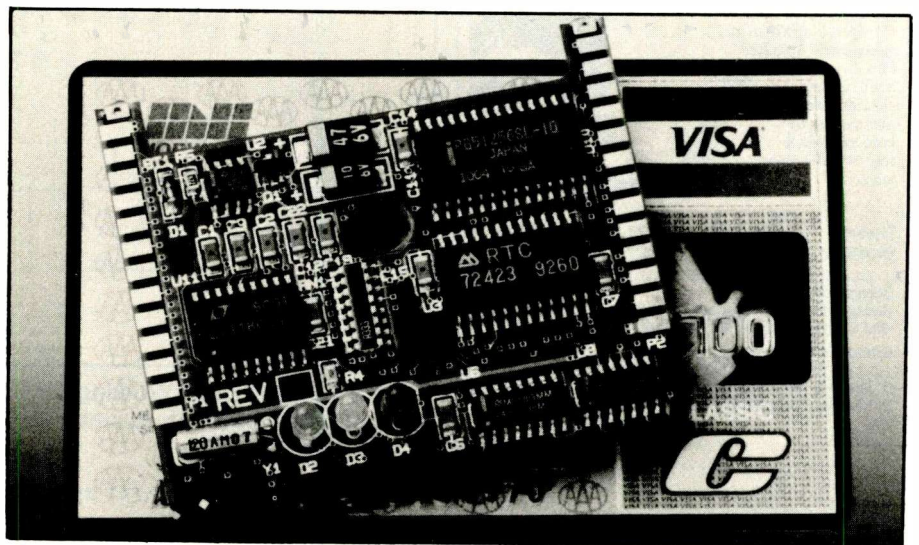

Fig. 3. Blue Earth Research's Micro-440 microcontroller board uses surface-mounted components and weighs just 2.5 ounces.
A. Technology is on your side. Advances in miniaturization and low-power technology are creating circuits that are smaller and lighter than ever before. As an example of what can be done, the Micro-440 from Blue Earth Research is a full-featured microcontroller board that weighs just 70 grams (2.5 ounces) and measures 2.25" × 1.9". Figure 3 shows that it's built almost entirely with surface-mount components, which are much smaller and lighter than their traditional through-hole equivalents.